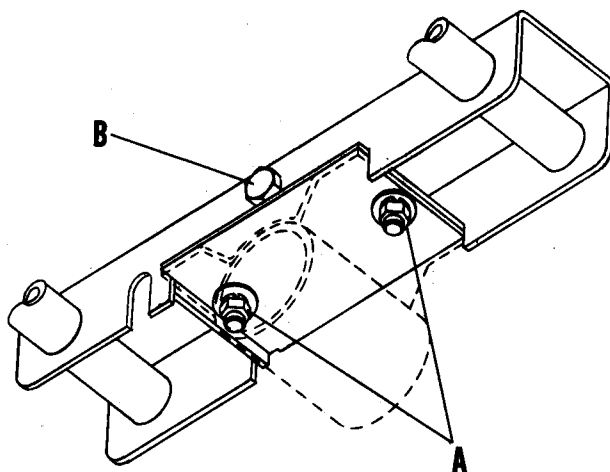

Figure 2
a. Loosen the two 3/8-inch hex nuts (A, figure 2) located on the underside of the rear frame channel, approximately one full turn.
b. Turn the 3/4-inch hex (B, figure 2) on the front (center) of the rear frame channel to obtain the tension desired. Turn clockwise to loosen belt and counterclockwise to tighten.